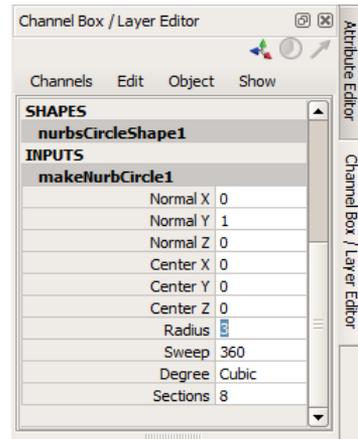

Figure 3-62 The Channel Box / Layer Editor for the circle
3. In the **Channel Box / Layer Editor**, expand the **makeNurbCircle1** area of the **INPUTS** area in the **Channel Box / Layer Editor** and enter **3** in the **Radius** edit box, refer to Figure 3-62.